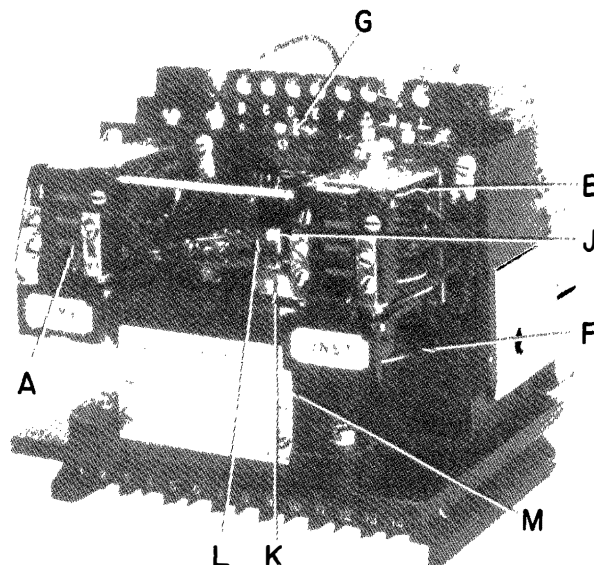

Fig. 1. Type 121FCV51BD relay, removed from case, front view
- A. Figure 1 on page 1 indicates that the reference letter for the Seal-in Unit is "A".